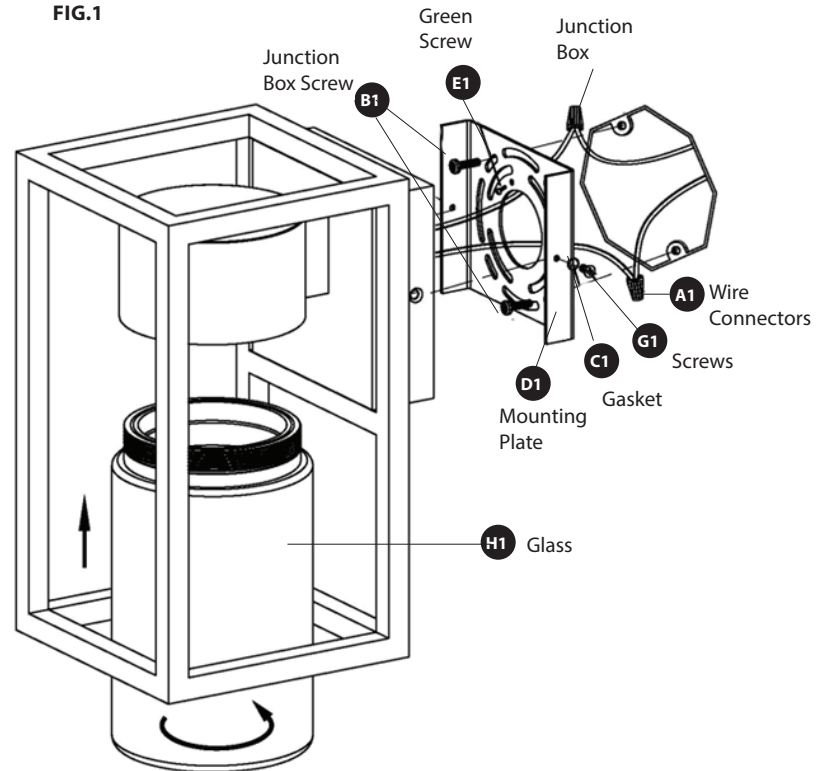

Fig.2 Wiring
CONNECTING THE WIRES (FIG.2)
5. Connect the electrical wires as shown in Fig. 2, making sure that all wire connectors (A1) are secured. If your outlet box has a ground wire, connect it to the fixture's ground wire. Otherwise, connect the fixture's ground wire directly to the mounting plate (D1) using the green screw (E1) provided. Tuck wires carefully inside the junction box.